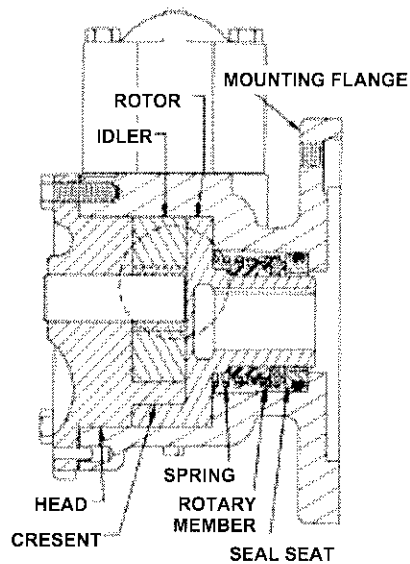

FIGURE 10
To Reassemble Model H475, HJ475, or HL475 Mechanical Seal Pumps: **(See Figure 10)**
6. THE HEAD CAN NOW BE ASSEMBLED ON THE PUMP. Tilt the head away from the pump slightly until the crescent enters the inside diameter of the rotor and rotate the idler until its teeth mesh with the rotor teeth. Do not damage the head gaskets. Note correct position of idler and crescent. Refer to figure 10 and disassembly step 2.